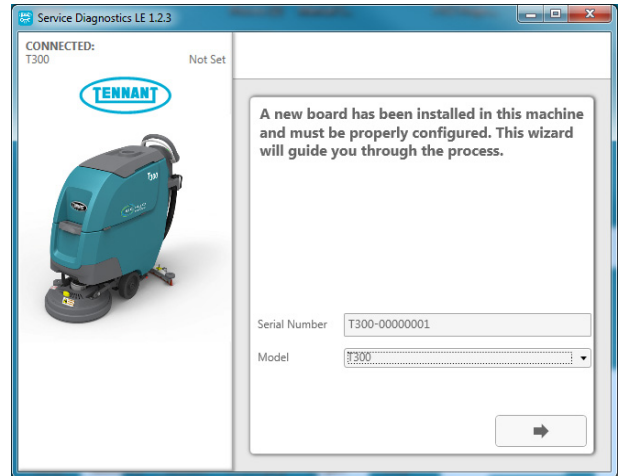

Fig. 7
6. The following screen will appear when the application software is connected to machine (Figure 7). Enter the machine serial number from the label on machine (ex. T300- 12345678). Select the appropriate model from the drop-down menu. Press the arrow button to advance to next screen.